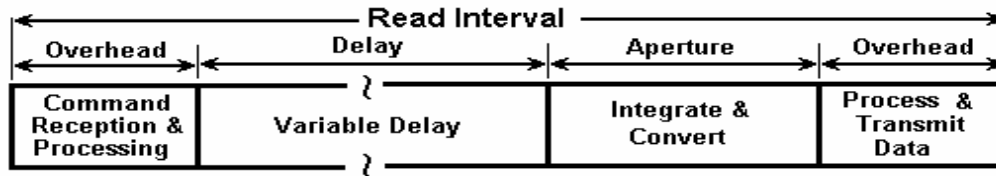

Figure 4-9. Anatomy of a measurement
The Read Interval parameter is the length of time the DMM makes a measurement, including the transfer of the measurement results. Both the Aperture and Read Interval can be set within their specified limits. Setting them allows control over measurement timing. Figure 4-9 depicts the various timing elements associated with each DMM reading cycle. The actual measurement rate is the reciprocal of the actual Read Interval (RI). The time intervals indicated "Command Reception and Processing" and the "Process & Transmit Data", are overhead times. This means that with the Read Interval set to 0, the DMM sets the Delay to 0, resulting in a minimal Read Interval consisting of the sum of the Aperture and the two overhead times indicated below. Set the Read Interval value using the `DMMSetReadInterval()` functions.